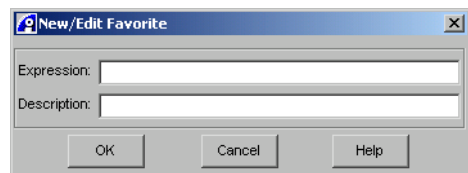

Figure 6-17 New/Edit Favorite dialog box
1. Click **New** to display the New/Edit Favorite dialog box shown in Figure 6-17.